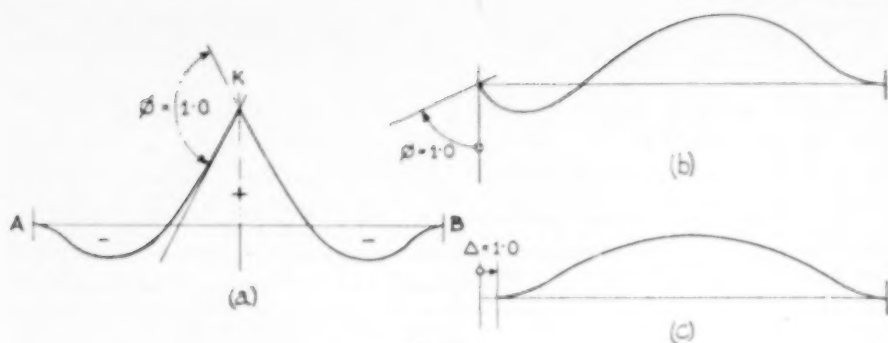

Fig. 4.
By proportion from the unit displacements in Table No. II, the movements induced at other joints by these balancing movements can be calculated and the total joint displacements found as in Table No. III. For AB, the deflection diagram resulting from unit relative rotation at K, assuming the ends of the arch to be fixed, must be as in Fig. 4 (a). For the given load on AB, the fixed-end moment at A is 126,000 ft.-lb., and the fixed-end thrust is 36,000 lb. The vertical reaction
of the pier EA is 30,000 lb. Hence, the bending moment at K is 36,000 ft.-lb., so that the area of the deflection diagram in Fig. 4 (a) must be 36 sq. ft. per radian.
(3). For all spans, including AB, the deflection diagrams resulting from (i) unit relative joint rotation, and (ii) unit relative joint translation, are as shown in Fig. 4 (b) and (c) respectively. For the given load the area of the diagram for (i) is 126 sq. ft. per radian, and for (ii) 36 sq. ft. per foot.
From Table No. III, the relative rotation of A to B is  $(0.075 + 0.0194) = 0.0944$ , and the relative horizontal translation is  $(1.418 + 0.668) = 2.086$ . Applying these values to the areas of the deflection diagrams in Fig. 4 (b) and (c), the area of the actual deflection diagram of span AB is obtained, that is the area of the influence-line diagram for the bending moment at K due to joint rotations and translations. For the span AB the total area is